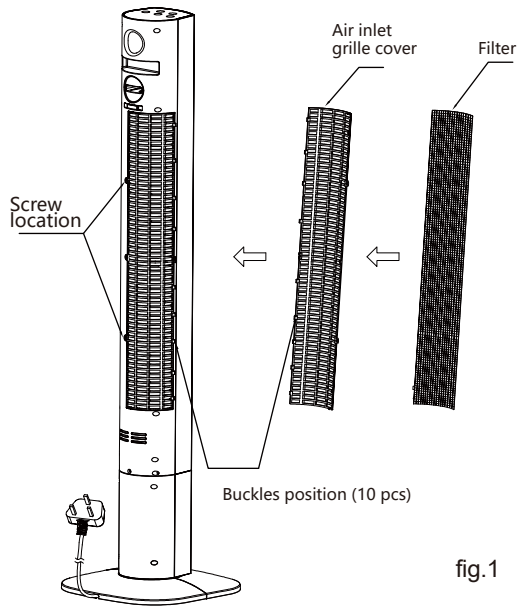

fig.1
- grille cover by screw-driver loosen all the buckles and open the grille. (fig.1).
6. Remove the filter, it lightly to remove the dust or clean the filter by water, after the filter to dry, then replace in the grille cover. (fig.1).